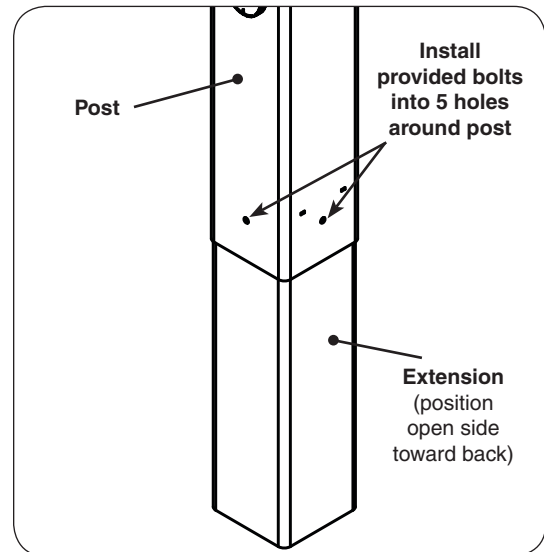

Fig. 18-1 Install extension to post
1. Attach the extension to the bottom of the grill post so that the open portion is toward the back of the grill and the five holes in the extension line up with the five (5) weld-nuts in the post (see Fig. 18-1).